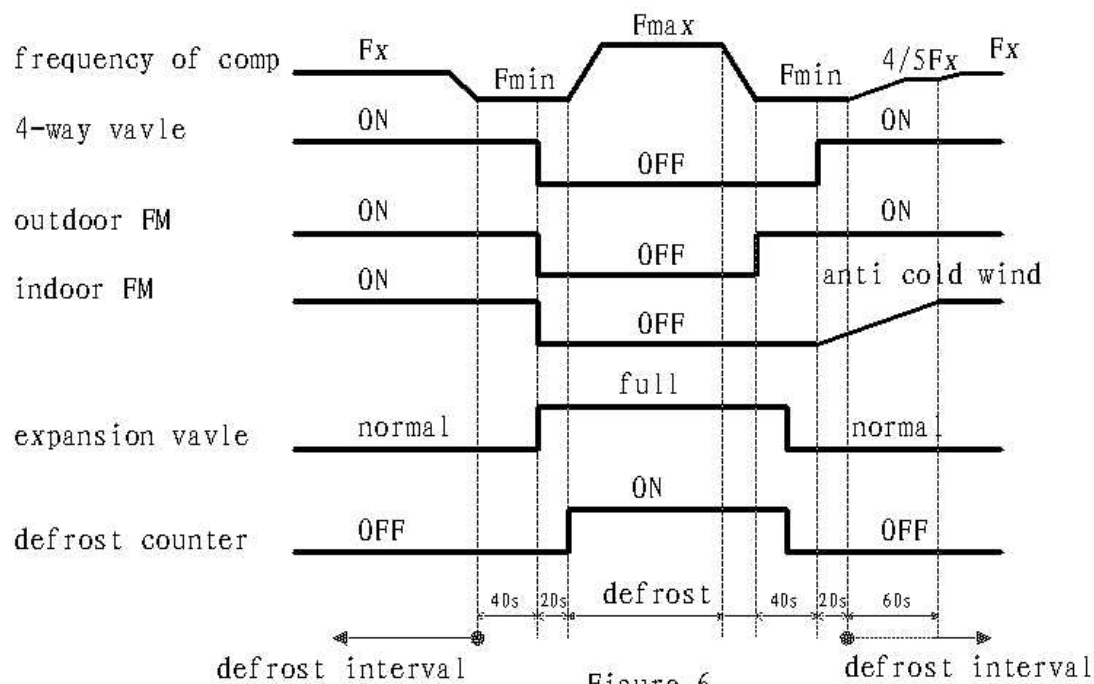

Figure 6
4. The control of outdoor fan motor as figure 6 during defrost process.
3. The control of reverse valve as figure 6 during defrost process.
## 七. Defrost of heating mode (figure 6)
### 4. Time sequence of defrost process (figure 6).